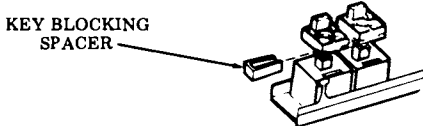

Fig. 11—Blocking Spacer Removal
- (b) Slide spacer to the left as far as it will go and then pull to the rear. (Fig. 11).